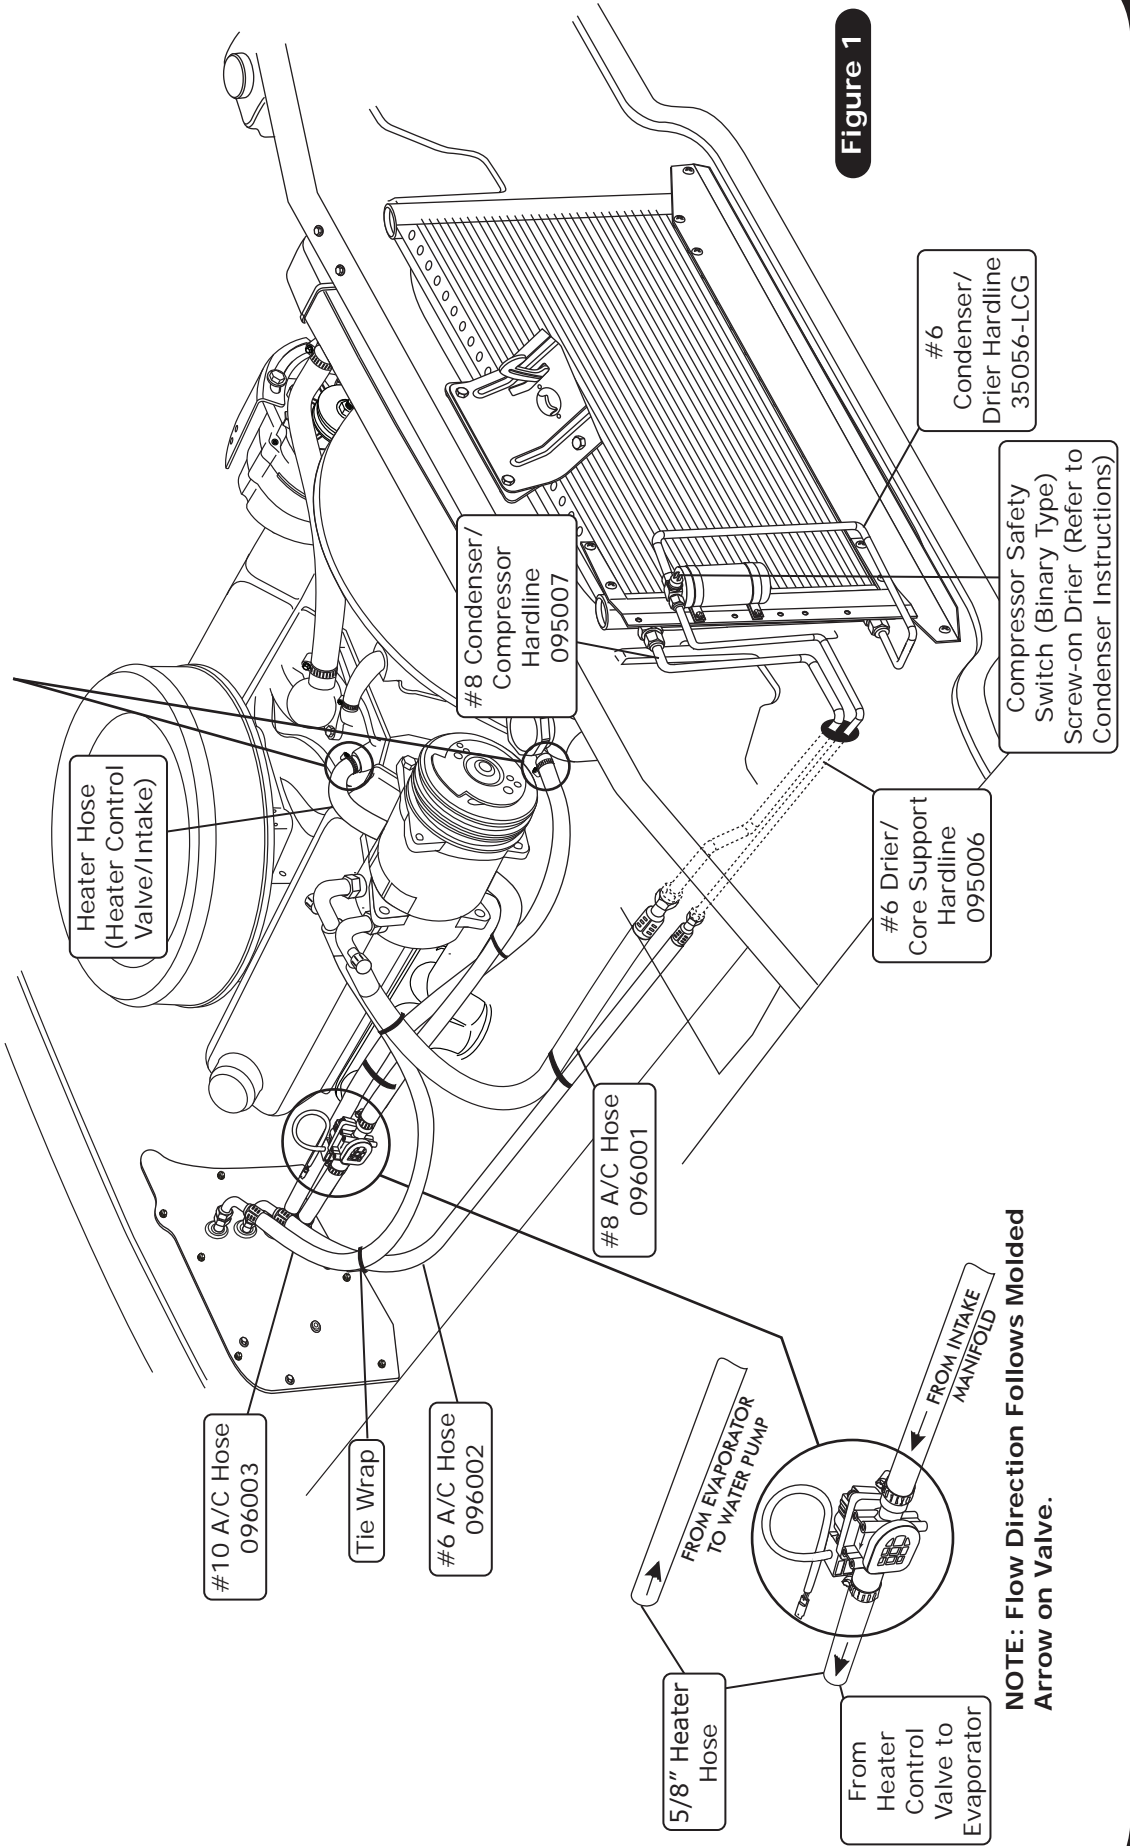

Figure 1
1. Locate the #8 compressor A/C hose. Lubricate (2) #8 O-rings (See Lubricating O-rings, Page 8) and connect the #8 135° female fitting with service port to the #8 discharge port on the compressor. Then route the straight female fitting to the #8 condenser hardline coming through the core support (See Figure 1, Page 19). Tighten each fitting connection as shown in Lubricating O-rings, Page 8.
2. Locate the #10 compressor A/C hose. Lubricate (2) #10 O-rings (See Lubricating O-rings, Page 8) and connect the #10 135° female fitting with service port to the #10 suction port on the compressor. Then route the 90° female fitting to the #10 evaporator hardline coming through the firewall cover (See Figure 1, Page 18, and Figure 1, Page 19). Tighten each fitting connection as shown in Lubricating O-rings, Page 8.
3. Locate the #6 evaporator A/C hose. Lubricate (2) #6 O-rings (See Lubricating O-rings, Page 8) and connect the straight female fitting to the #6 condenser hardline coming through the core support. Then route the 90° female fitting to the #6 hardline coming through the firewall cover (See Figure 1, Page 18, and Figure 1, Page 19). Tighten each fitting connection as shown in Lubricating O-rings, Page 8.
1. Route a length of heater hose from the upper heater hardline to the water pump fitting, and secure it using (2) hose clamps (See Figure 1, below, and Figure 1, Page 19).
2. Cut a length of heater hose approximately 4" to 5" from the firewall cover, then install it onto the lower heater hardline. Install the heater control valve and secure with (2) hose clamps (See Figure 1, below).
NOTE: Ensure proper flow direction through the heater control valve. The flow direction follows the molded arrow on the valve (See Figure 1, below).
3. Install another length of heater hose from the heater control valve to the intake, then secure it with (2) hose clamps (See Figure 1, below, and Figure 1, Page 19).